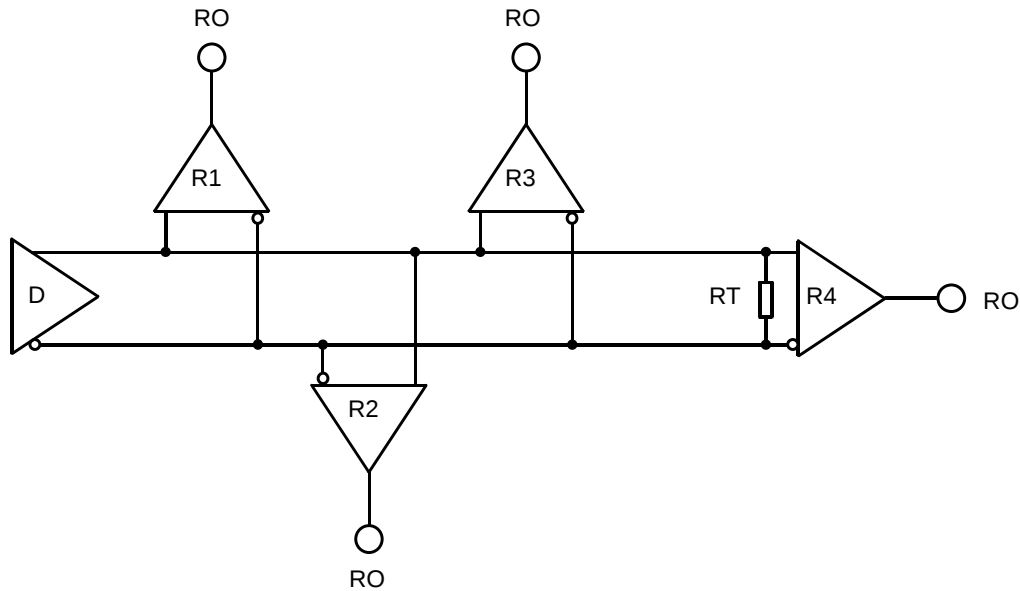

Fig. 22: RS-422 Interface Circuit Including Four Receivers as an Example
The RS-422 standard allows devices to be used with a bus structure to form an interface circuit. So, for example, input line 1 on several different cameras can be connected via an RS-422 bus as shown in Figure 22.
The separations between receivers and bus should be as small as possible. The bus must be terminated by a 120 ohm termination resistor (RT). Note that each RS-422 input on the cameras includes a switchable 120 ohm termination resistor as shown in Figure 21. When a camera input of the last receiver in the bus terminates the bus (as shown in Figure 22.: R4), the termination resistor on that input should be enabled. You should not use multiple termination resistors on a single bus. Using multiple termination resistors will lower signalling reliability and has the potential for causing damage to the RS-422 devices.